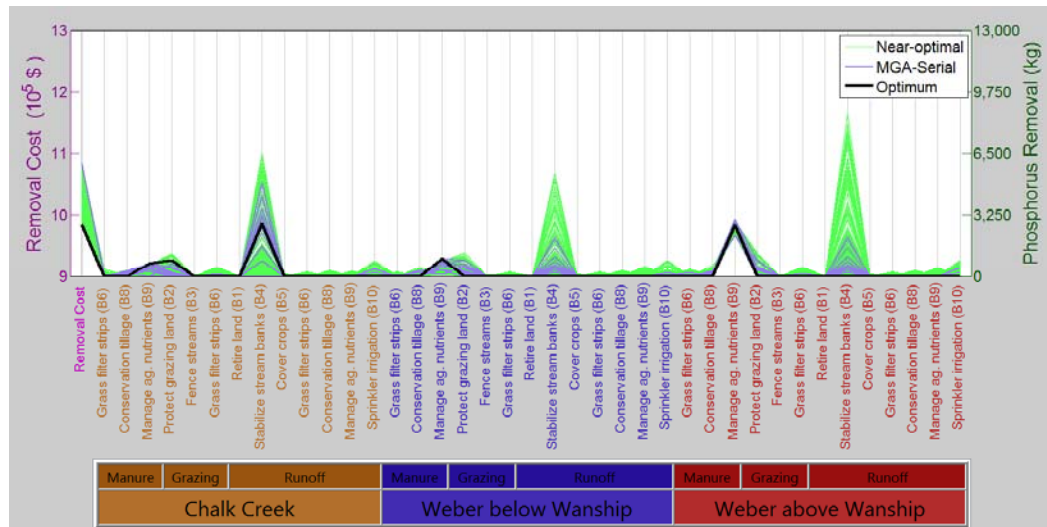
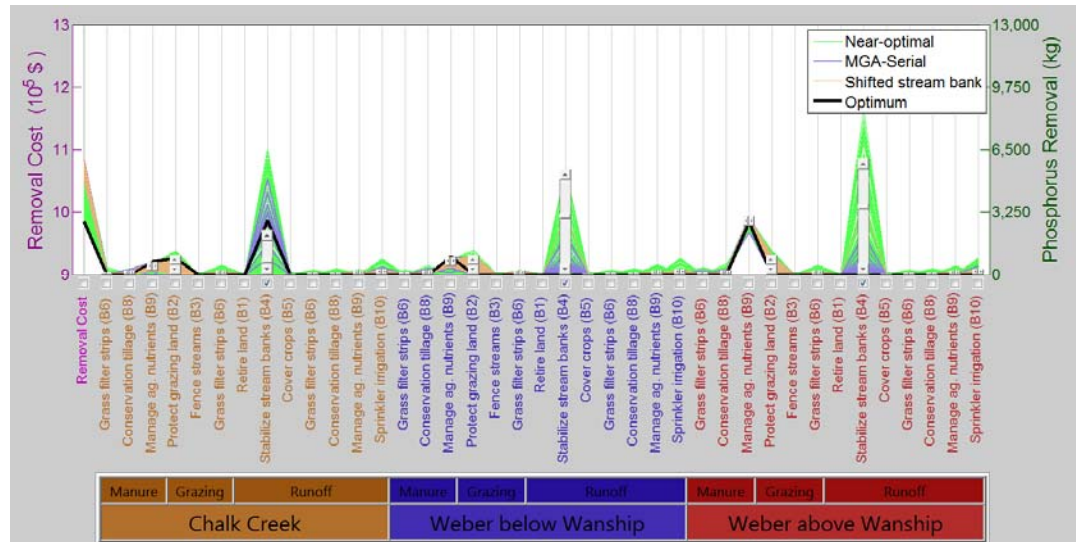

Figure 2. Optimal solution and near-optimal alternatives generated by the stratified sampling and MGA methods for the Echo Reservoir Phosphorus removal problem.
Figure 3. Near-optimal alternatives generated by shifting and increasing stream bank stabilization to the Weber below and above sub-watersheds.
- c. This command will read the Echo Reservoir model data from GAMS, stratify-sample 2,500 near-optimal alternatives, generate additional alternatives by the Modelling to Generate Alternatives-Serial Method in about the same run time as it took the stratified-sampling, and plot all the results in Parallel Coordinates. You should see Figure 2 below (which is also Figure 3 in the manuscript).
- d. If you generated Figure 2, congratulations, you have successfully installed the blended near-optimal tools. If not, please seek help.
- e. Look at Figure 2. How do near-optimal alternatives generated by the stratified sampling method differ from alternatives generated by the MGA-Serial method? Which method generates alternatives that better cover the near-optimal region?